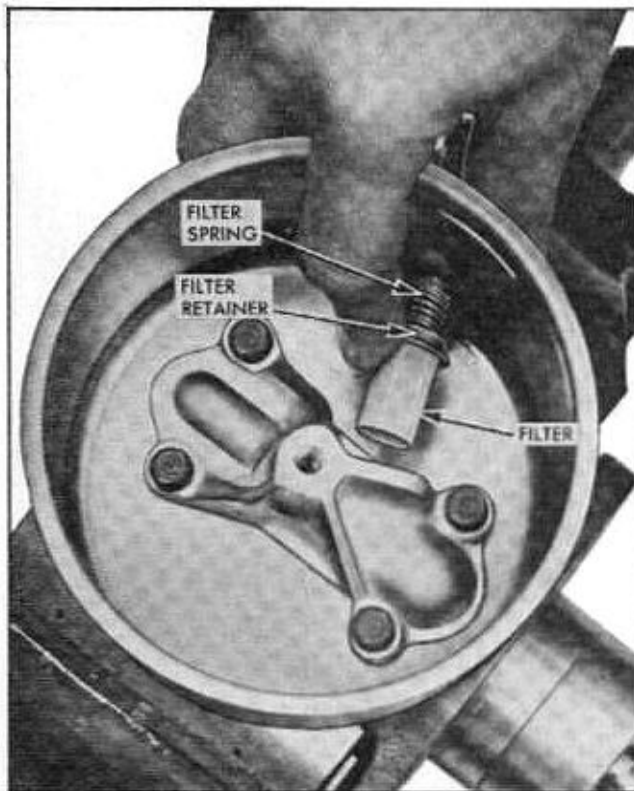

Fig. 9-70 Removing Filter Screen
3. Remove filter screen, filter retainer and filter spring by pushing the retainer back against the spring as shown in Fig. 9-70.